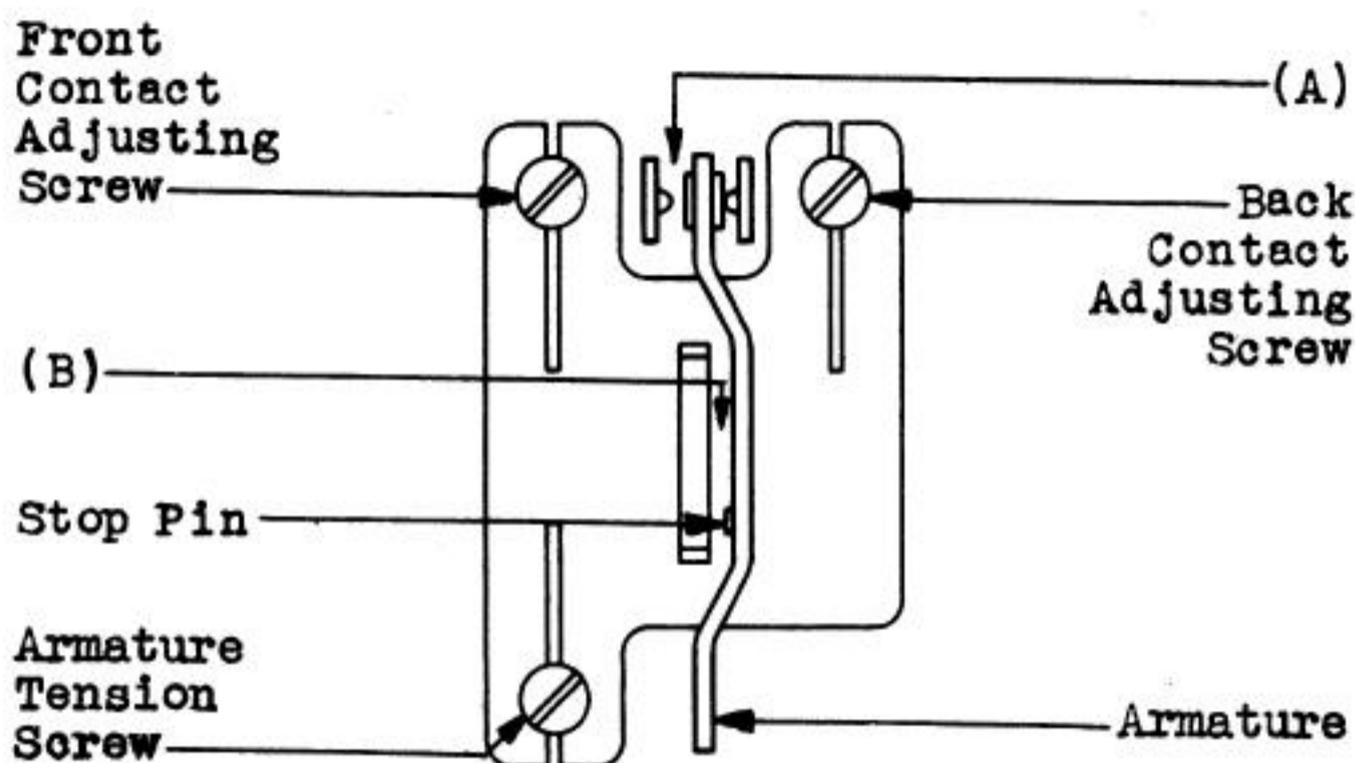

Fig. 108 - Location of Adjusting Screws
2.11 Contact Separation - Fig. 108 (A): The separation between contacts normally open or between contacts that are opened when the relay is operated shall be at least .005" except for contact (a) in Fig. 5 which shall be at least .010". This also applies to contact (a) in Fig. 7 for the B136 relay. Use the No. 74D gauge. See Note A following requirement 2.12.
2.12 Maximum Armature Travel - Fig. 108 (B)